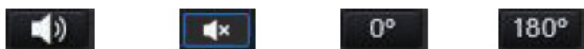

Figure 3.3.2
2. Mute and phase adjustment, also under the label of each channel are phase and mute both buttons select, and click on the button you can be between "positive phase" and "inverted" Switch, click the mute button You can switch between "open tone" and "off the sound." Figure 3.3.2 as follows: